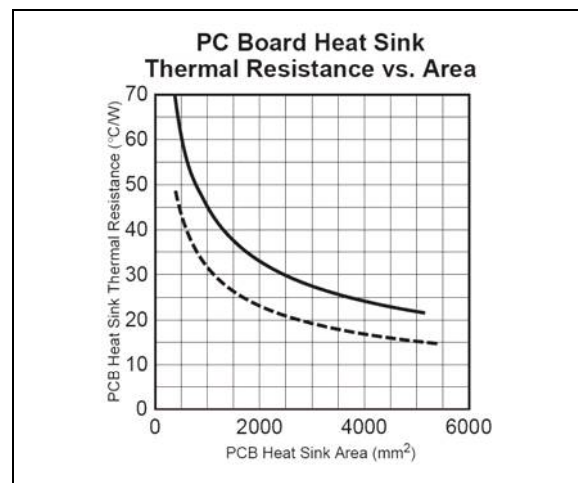

FIGURE 4-3: Excerpt from the LDO Book.
- $R_{\theta_{CA}} = 53^{\circ}C/W$ (as read from Figure 4-3)